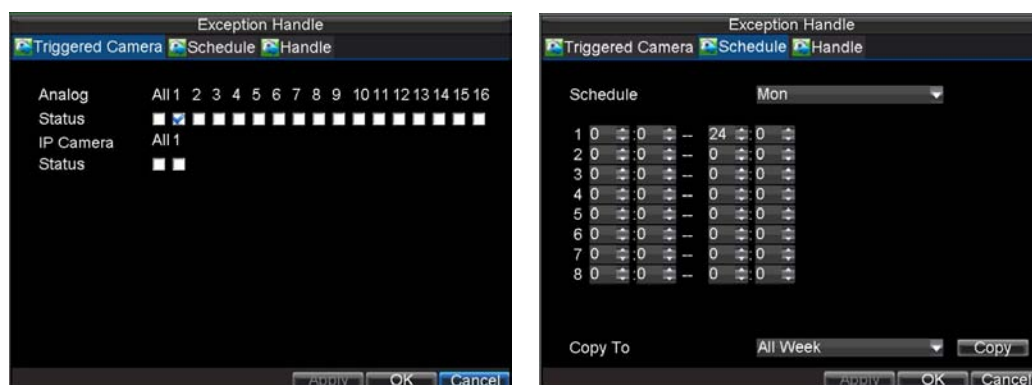

Figure 5. Exception Handle Menu
8. Click the Handle button to open the Exception Handle menu, shown in Figure 5. Select the Triggered Camera tab.